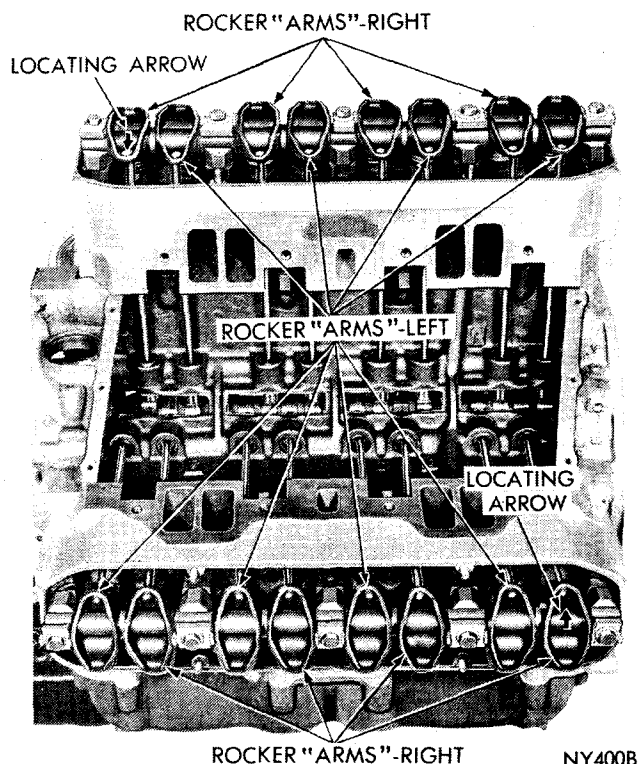

Fig. 1—Rocker Arms Installed (Typical)
- (1) Remove cylinder head cover and gasket.
- (2) Remove bolts that attach rocker arm assemblies to cylinder head.
- (3) Remove rocker arms and shaft as an assembly.
- (4) If rocker arm assemblies have been disassembled for cleaning, inspection, or replacement, refer to (Fig. 1) for proper reassembly.